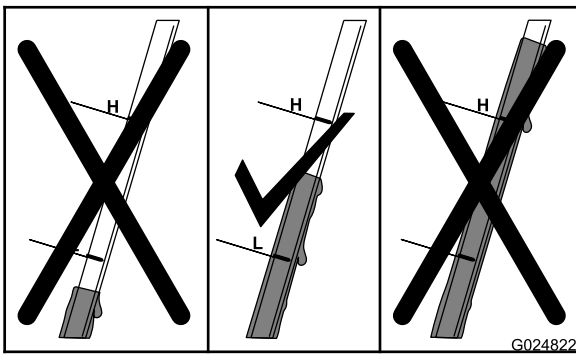

Figure 25
6. Read the oil level on the dipstick (Figure 25).